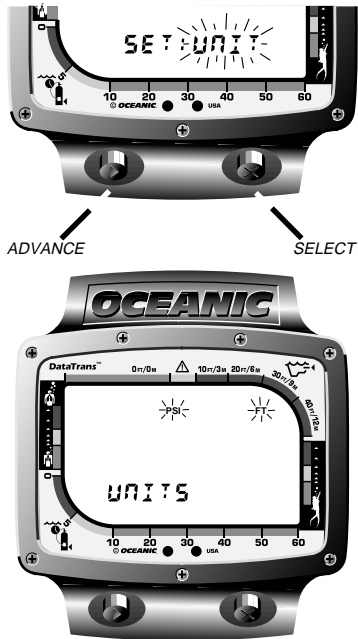

Fig. 14 - Units of Measure Preference Setting
4. Press the Select button to select the Unit setting. PSI and FT will appear in the upper portion of the screen, flashing (Fig. 14).